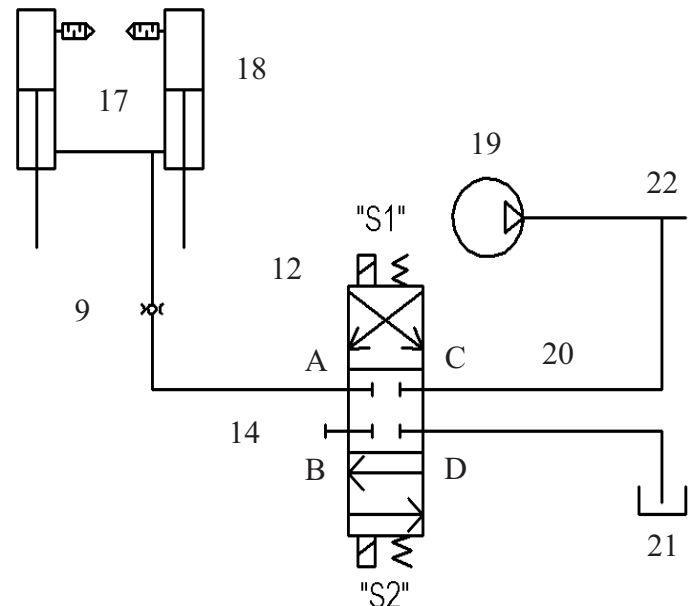

Figure 2.5 - Hydraulic Schematic
2. *Figure 2.5* illustrates the ideal setup for the hydraulic routing. The hydraulic cylinders (#17) are fed by a pressure line with a needle valve (#9) from the main switch block (#12) connected to port 3 (P3). The one side of the block is tee'd into a fixed displacement pump (#19) circuit (#22) connecting to the block at port (#P4). Port (P1) on the block is tee'd into the tank line (#21). Port (#P2) is plugged (#14).